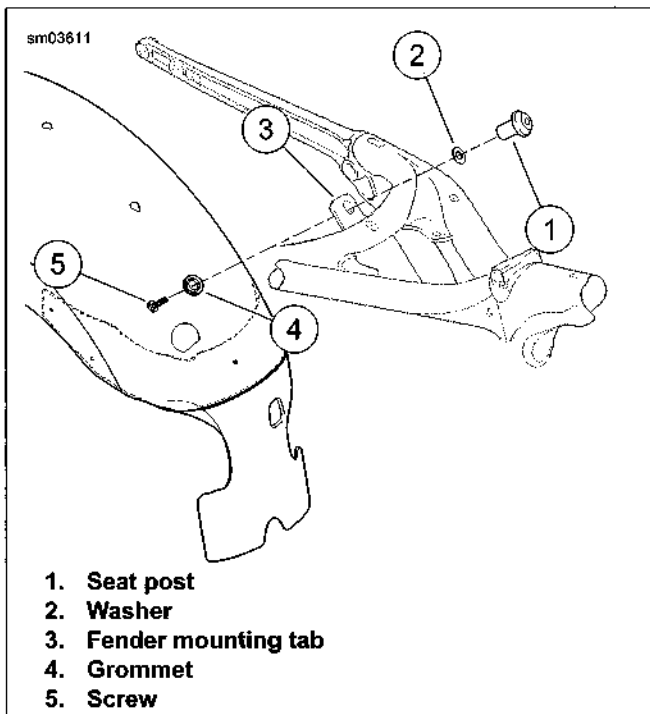

Figure 2-160. Seat Post/Rear Fender Mount Hardware
16. Have an assistant hold rear fender in place. See Figure 2-160. Remove seat post (1), washer (2) and screw (5). Remove rear fender. Do not damage paint. Lay rear fender on a soft, clean surface.
4. See Figure 2-160. With assistant holding rear fender in place, install screw (5) through fender and frame tab. Install washer (2) on screw. Thread seat post (1) onto screw. Finger-tighten seat post.
- a. See Figure 2-160. Tighten screw (5) and seat post (1) to 120-168 **in-lbs** (13.6-19.0 Nm).